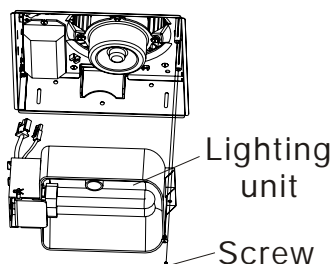

Fig.15
3. Insert the plug connector into the receptacle respectively, and attach the lighting unit to the fan unit with 2 screws (M4X10) . (Fig.15)